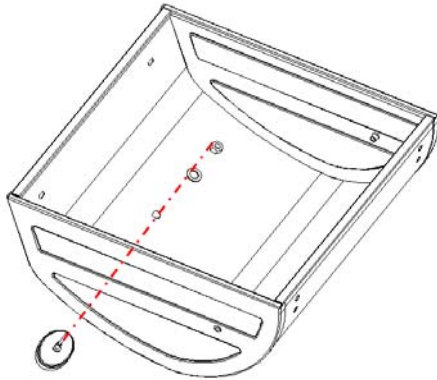

Fig. 19B
Place (1) Heat Indicator into the area in the center of Gas Grill Lid and fasten in place with the washer and nut as shown as Fig. 19B.